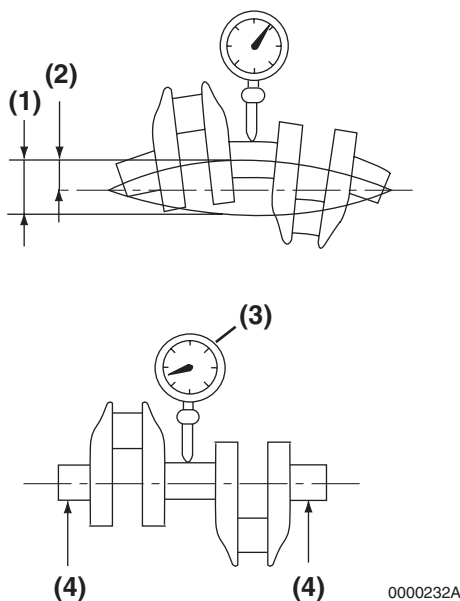

Figure 6-119
1. Place the crankshaft end journals (**Figure 6-119, (4)**) on V-blocks.
2. Place a dial indicator (**Figure 6-119, (3)**) on a center main bearing surface.